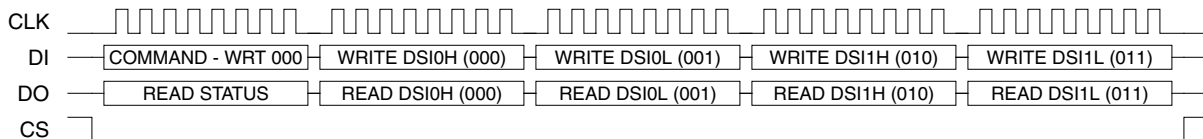

Figure 4-7. SPI Burst Transfer Example
Figure 4-7 Shows a typical burst transmission between the SPI of the host MCU and the SPI in the MC68HC55. This example assumes the DSI/D register pointer was pointing at the STATUS register (100) before the start of the burst. The first SPI transfer is the command from the host MCU (write address 000 in this case). During this first transfer, the data returned to the MCU is the data that was latched from the status register at the falling edge on \overline{CS} . During the next SPI transfer, the data from DSI0H (receive FIFO at pop pointer) is sent back to the MCU while new data is written to DSI0H (transmit FIFO at push pointer). Notice \overline{CS} remains low throughout the whole burst sequence. As each SPI transfer completes, the DSI/D register pointer is incremented to point at the next register. At the end of this burst, the register pointer is left pointing to the status register so it is ready for the next SPI burst.